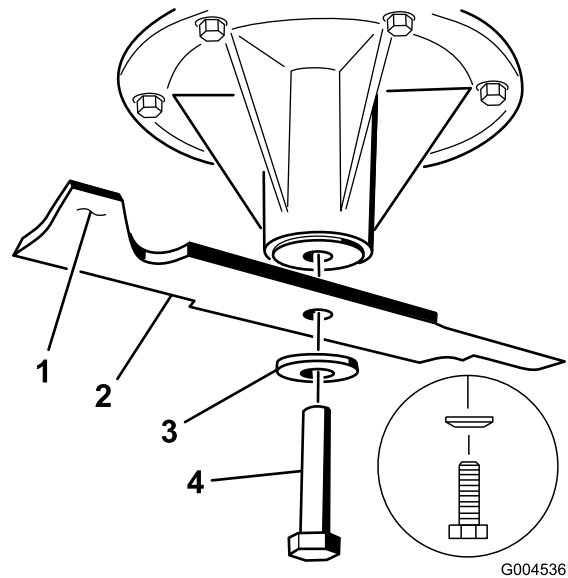

Figure 96
2. Remove the blade bolt, the curved washer, and the blade from the spindle shaft (Figure 96).
3. If the blade is not balanced, file some metal off the end of the sail area only (Figure 96).